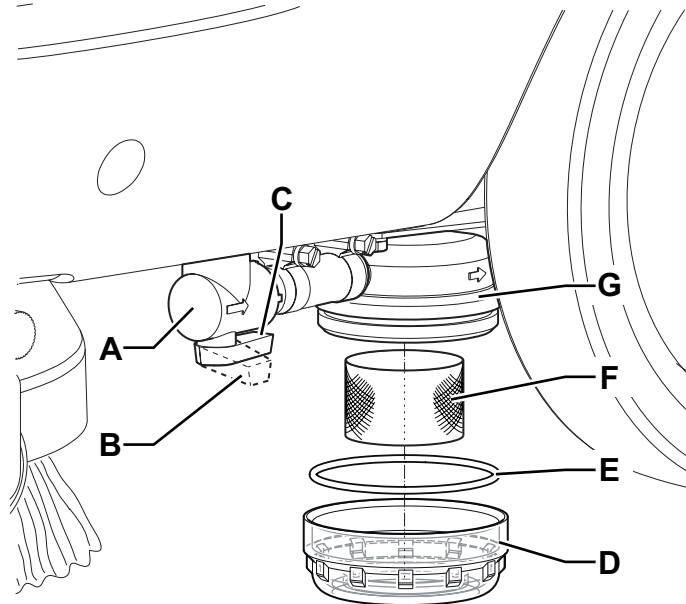

Figure 7
2. Make sure that the power supply cable plug (21) is disconnected from the electrical mains.
3. Close the solution valve (A, Fig. 7) under the machine, in front of the left rear wheel.